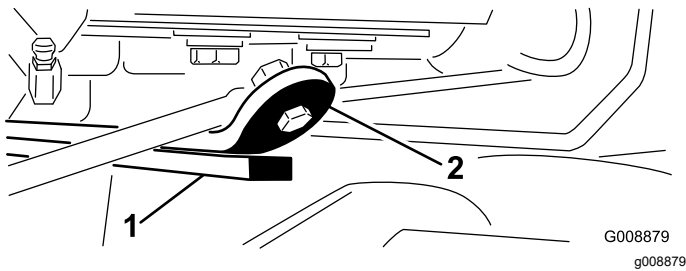

Figure 28
3. Start the engine, raise the lift arms, and check to ensure that the clearance between the wear strap on the top of the rear cutting unit wear bar and the bumper strap is 0.51 to 2.54 mm (0.02 to 0.10 inches) as shown in Figure 28.